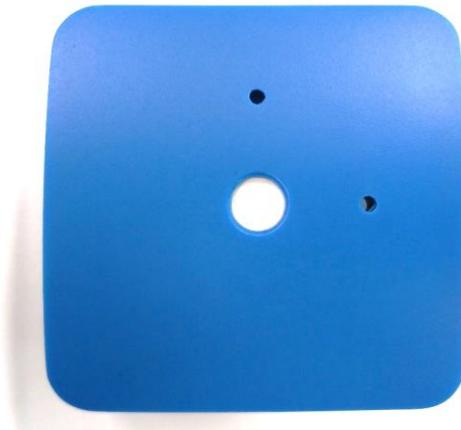

Figure 1: Top view of the case (EU045-IAQEV1Z Blue-Puck Version) with and without the top cover.
2. Open the case by pulling the top cover upwards while holding the little wings of the bottom part (Figure 1)